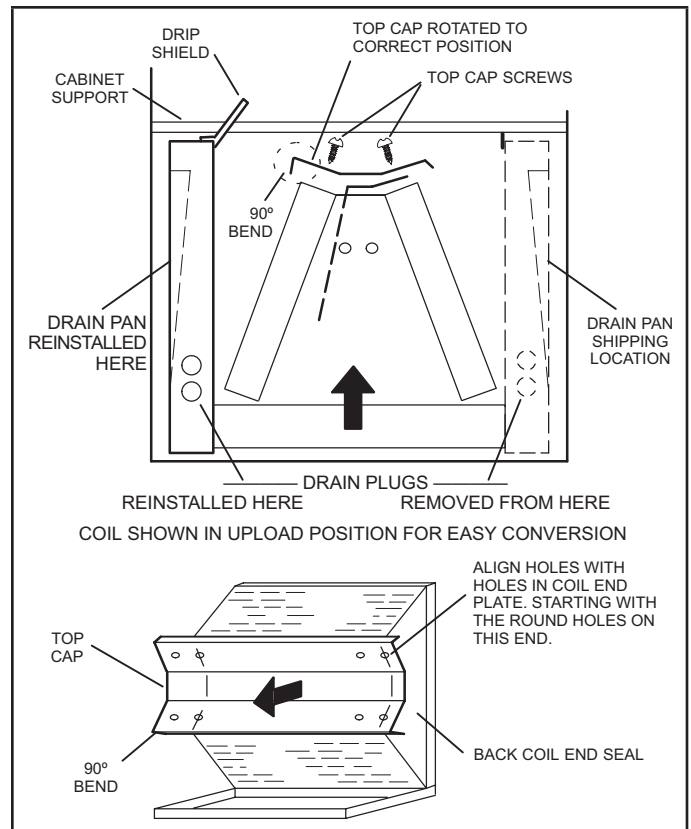

FIGURE 7. Field Modification for Left-Hand Discharge
- 5 - Remove screws from top cap. Remove horizontal drip shield screw located in the center of the back coil end seal as illustrated in figure 7.
The 90° bend must be on the same side as the horizontal drain pan as illustrated in figure 7.
- 9 - From the upflow position, flip cabinet 90° to the left and set into place. Replace blower assembly. Secure coil in place by bending down the tab on the cabinet support rail as illustrated in figures 7 and 8.